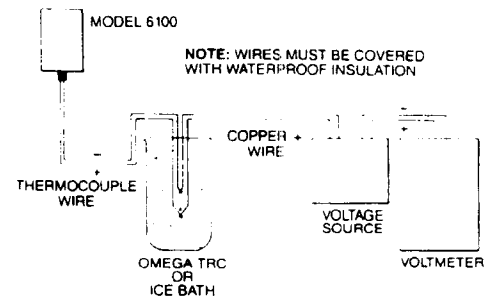

Figure 4-2. Calibration Set-up for Thermocouple Model
6. Connect calibration equipment for thermocouple or RTD models as shown in Figures 4-2 and 4-3.